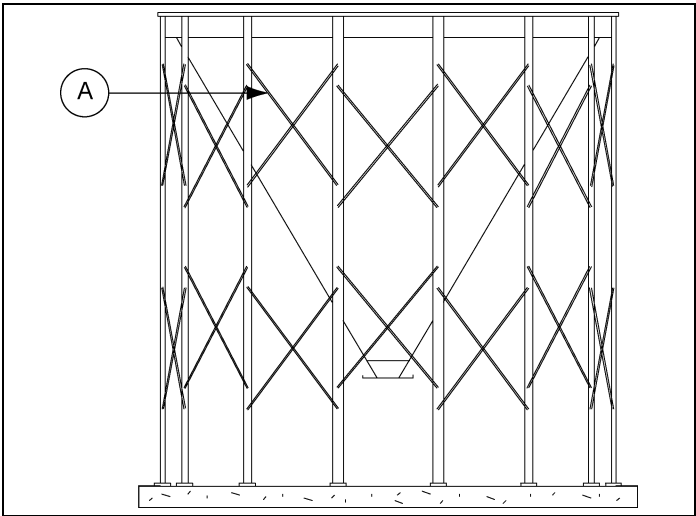
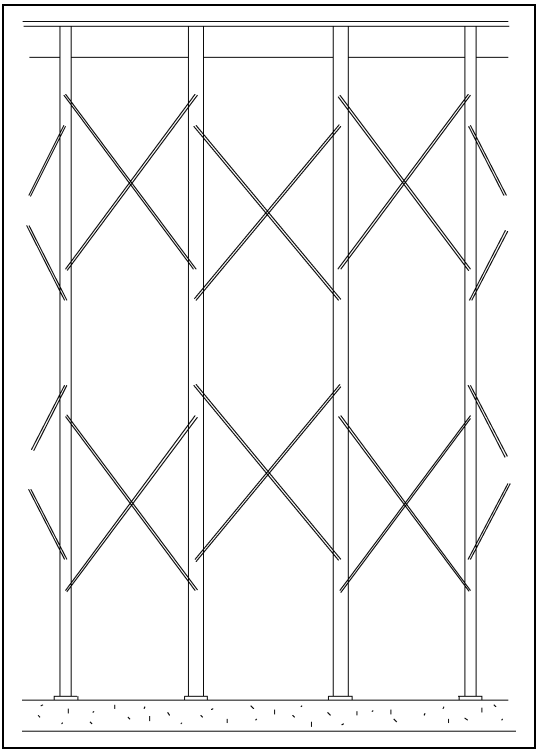
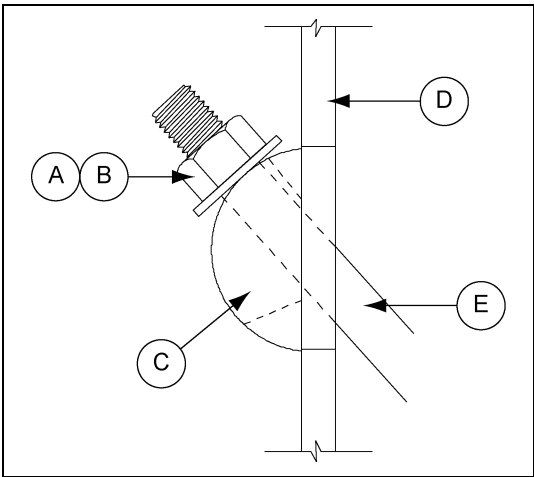

Figure 5M Completed Hopper Assembly
Figure 5N Detail E - “X” Bracing Rods
Figure 5O Detail F
Install “X” bracing rods (A) as shown in Figure 5M, Figure 5N and Figure 5O.